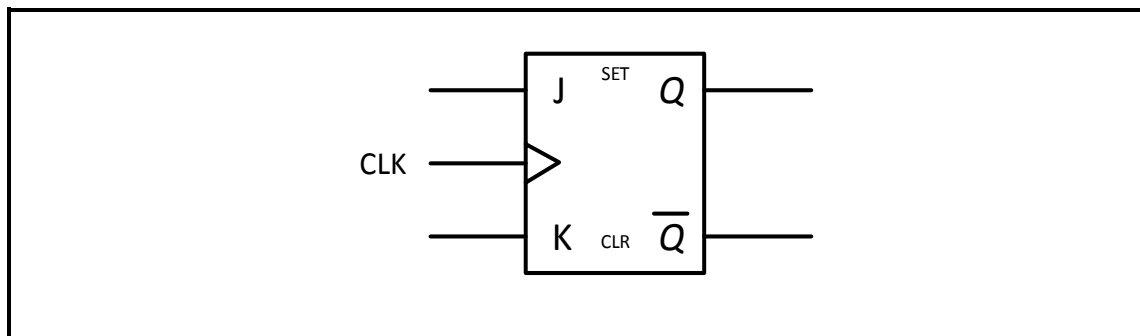

FIGURE 5.4: LOGIC SYMBOL OF A FLIP-FLOP
5.4 FIGURE 5.4 below represents the logic symbol of a flip-flop.
Draw the labelled logic circuit for the logic symbol in FIGURE 5.4 using AND gates and NOR gates only on the ANSWER SHEET for QUESTION 5.4.